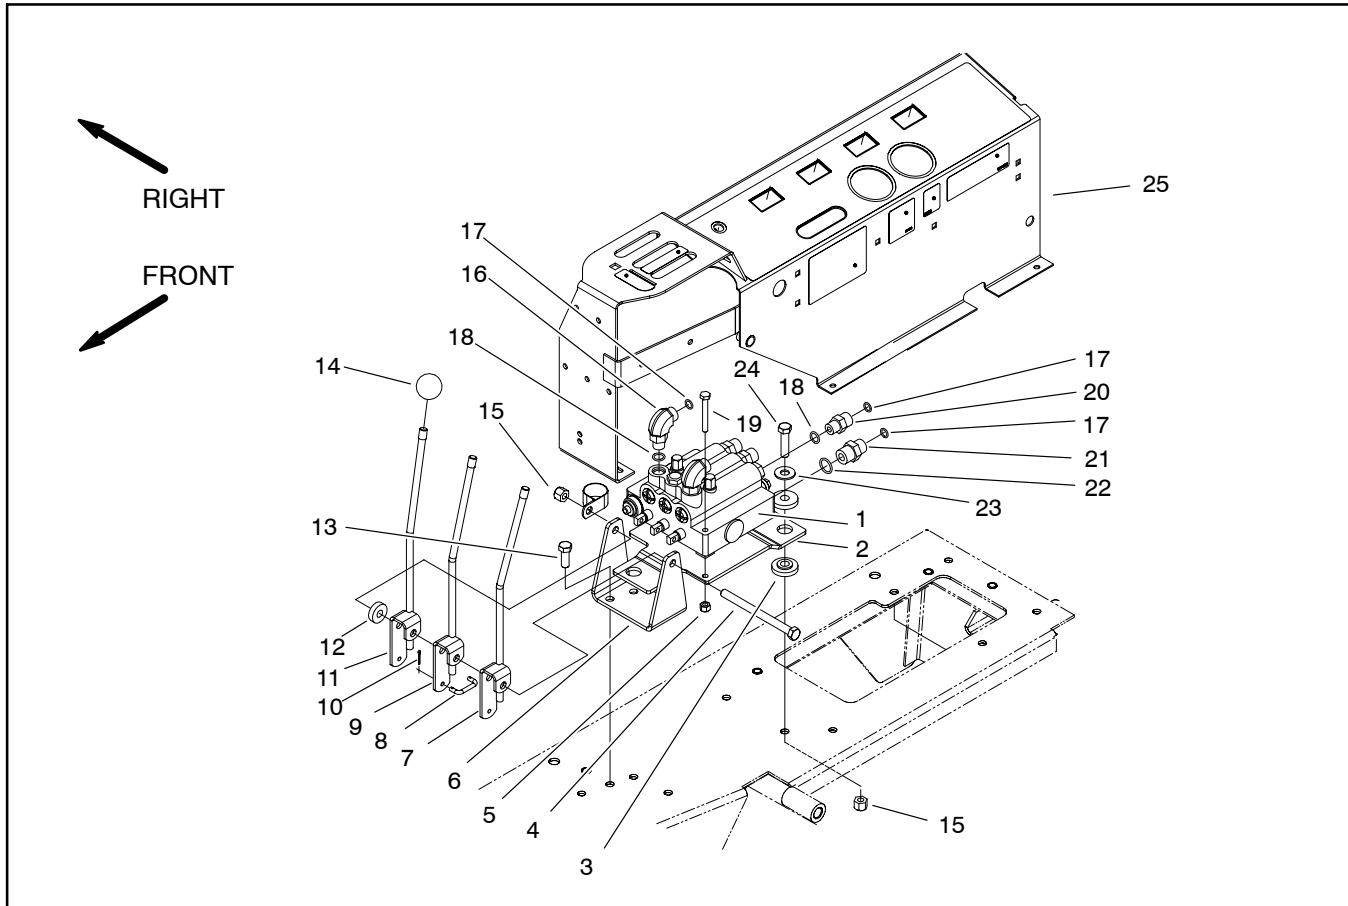

Figure 69
Removal (Fig. 69)
3. Remove lift/lower control valve using Figure 69 as a guide.
Installation (Fig. 69)
1. Install control valve using Figure 69 as a guide.
- A. If valve bracket (item 2) was removed, tighten cap screw (item 24) only until the washer (item 23) begins to seat against the isolator (item 3). The isolator should not be deformed.